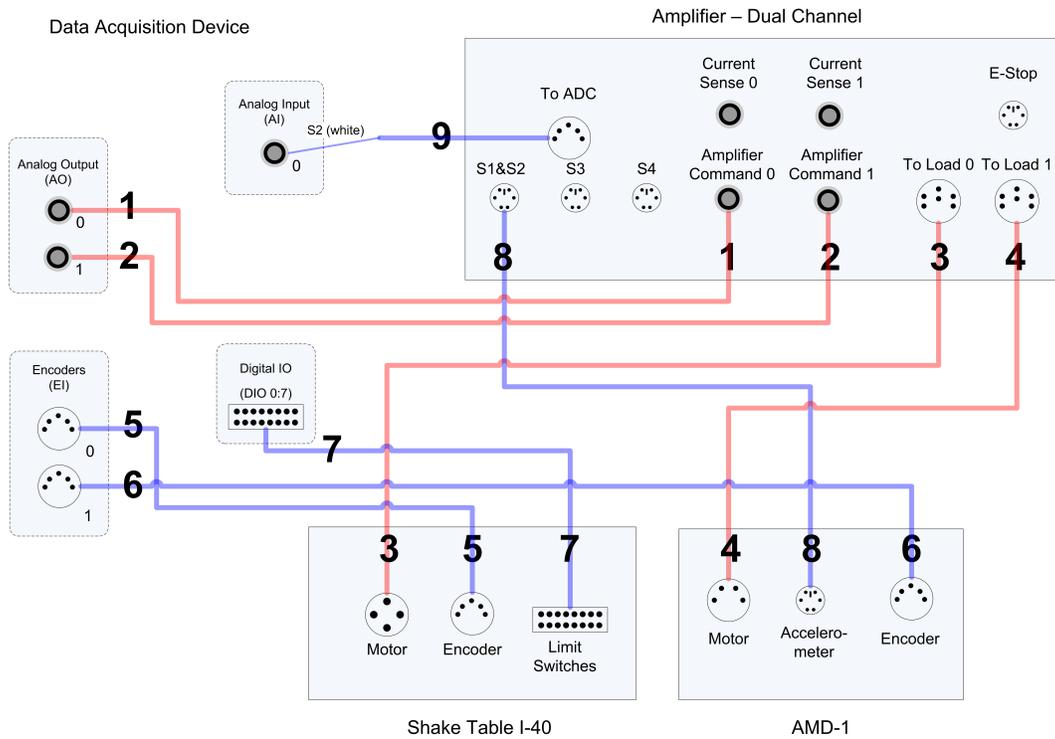

Figure 3.1: Shake Table I-40 Connections when using One-Floor Active Mass Damper
The connections between the data acquisition device, the power amplifier, the Shake Table I plant, and the One-Floor Active Mass Damper (AMD-1) is illustrated in Figure 3.1 and summarized in Table 3.2. If you are NOT using the AMD-1, then you can omit those corresponding connections.
**Note:** The wiring diagram shown in Figure 3.1 is using a generic data acquisition device. The same connections can be applied for any data acquisition system that has 1x analog input, 2x analog output, 2x encoder input, and 1x Digital Input header.